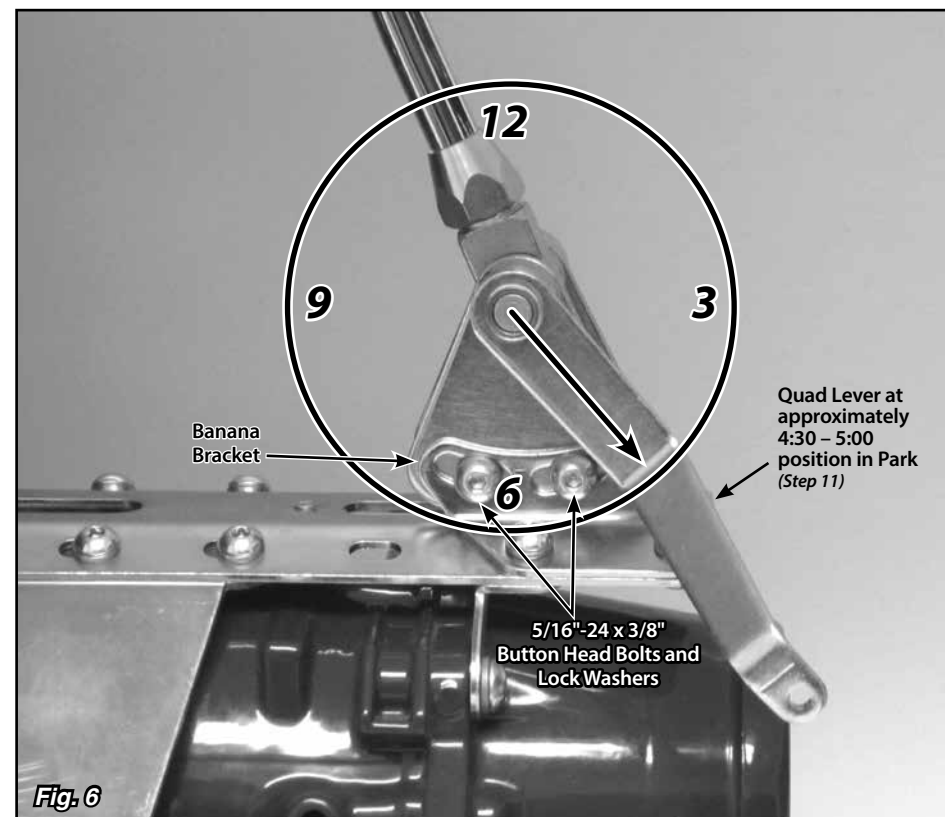

Fig. 6
Step 10: Make sure the two 5/16"-24 x 3/8" button head bolts that attach the left side banana bracket to the shifter assembly (in the curved, slotted holes) are tight. Before tightening the shifter assembly down to the main plate, move the shifter lever through all of the gear positions. Make sure that the shifter lever and knob do not come in contact with the dash or the seat. The shifter assembly can be tilted forward or backward if needed by loosening the 5/16"-24 x 3/8" button head bolts in the curved, slotted holes in the left side banana bracket. **Fig. 6**
Step 11: Put the Shifter into the Park position and check the position of the quad lever. It will need to be pointing to about the 4:30 – 5:00 position. If it is not, loosen the set screw in the top of the quad lever with a 1/8" Allen wrench and slide the quad lever off of the shaft. Reposition it on the shaft at approximately the 4:30 – 5:00 position, and retighten the set screw. **Fig. 6**
Double check to make sure that the bolts connecting the **left** side banana bracket to the shifter assembly are tight. **Fig. 6**